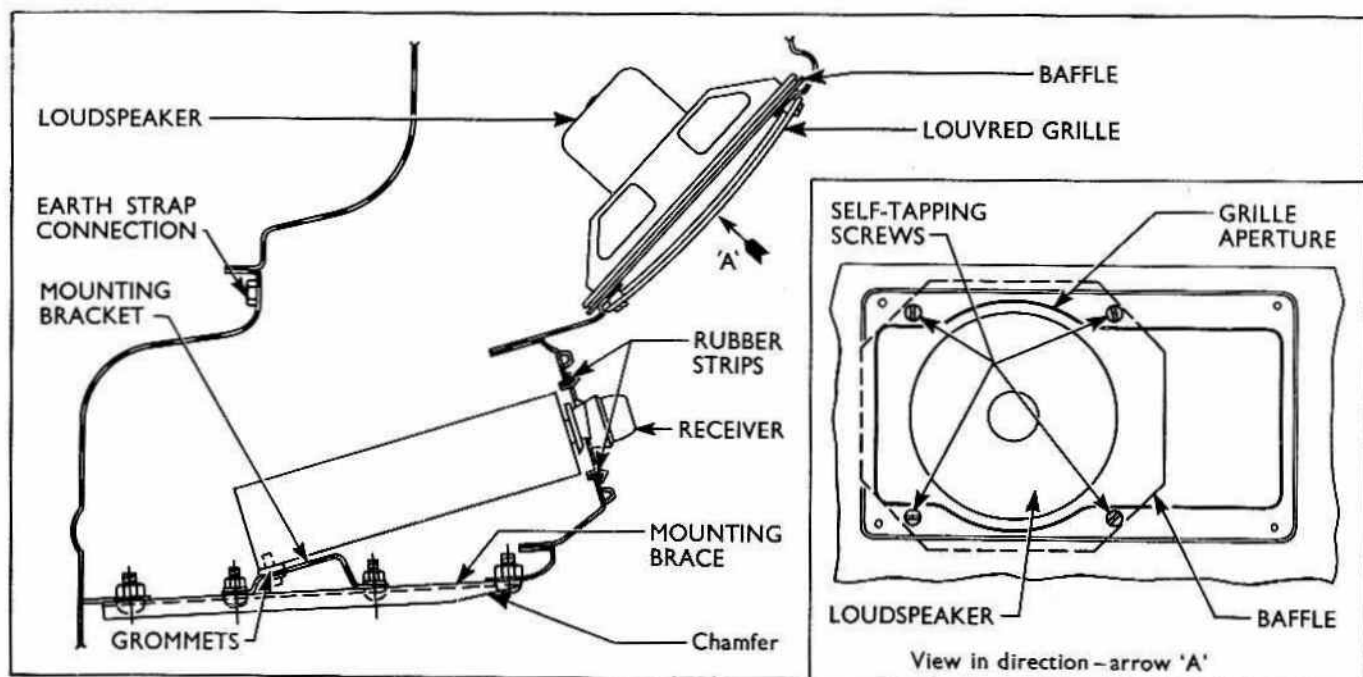

Fig. 602
- 3 While it is accessible, clean the face of the clinch nut situated in the engine bulkhead, in line with the centre of the loudspeaker aperture and level with the lower edge, see Fig. 602.
- 5 Locate the speaker and baffle assembly in position in the facia panel aperture behind the flanged edges, with the terminal panel downwards. Route the leads towards the receiver location, well clear of movable parts, i.e. heater controls, ashtray, etc. and then secure the baffle to the facia with four self-tapping screws, Part No. 52726-S7/8, as shown in Fig. 602.
- 4 Remove the brace at present fitted between the centre of the lower facia panel and the engine bulkhead. This brace is of "U" section and the rearmost ends of the flanges must be tapered for a length of $1\frac{1}{2}$ in. to a depth of $\frac{1}{2}$ in. and both front and rear ends then suitably chamfered to prevent damage resulting from the exposed sharp corners (see Fig. 602).
- 11 Assemble the two grommets (E452-T-2) to the radio mounting bracket so that the larger shoulder of each grommet is above the bracket as shown in Fig. 602. Position the bracket on the underside of the radio and secure to the receiver base with two screws (AB-602/8-S7/8) and washers (44713-S7/8) using the threaded holes provided.